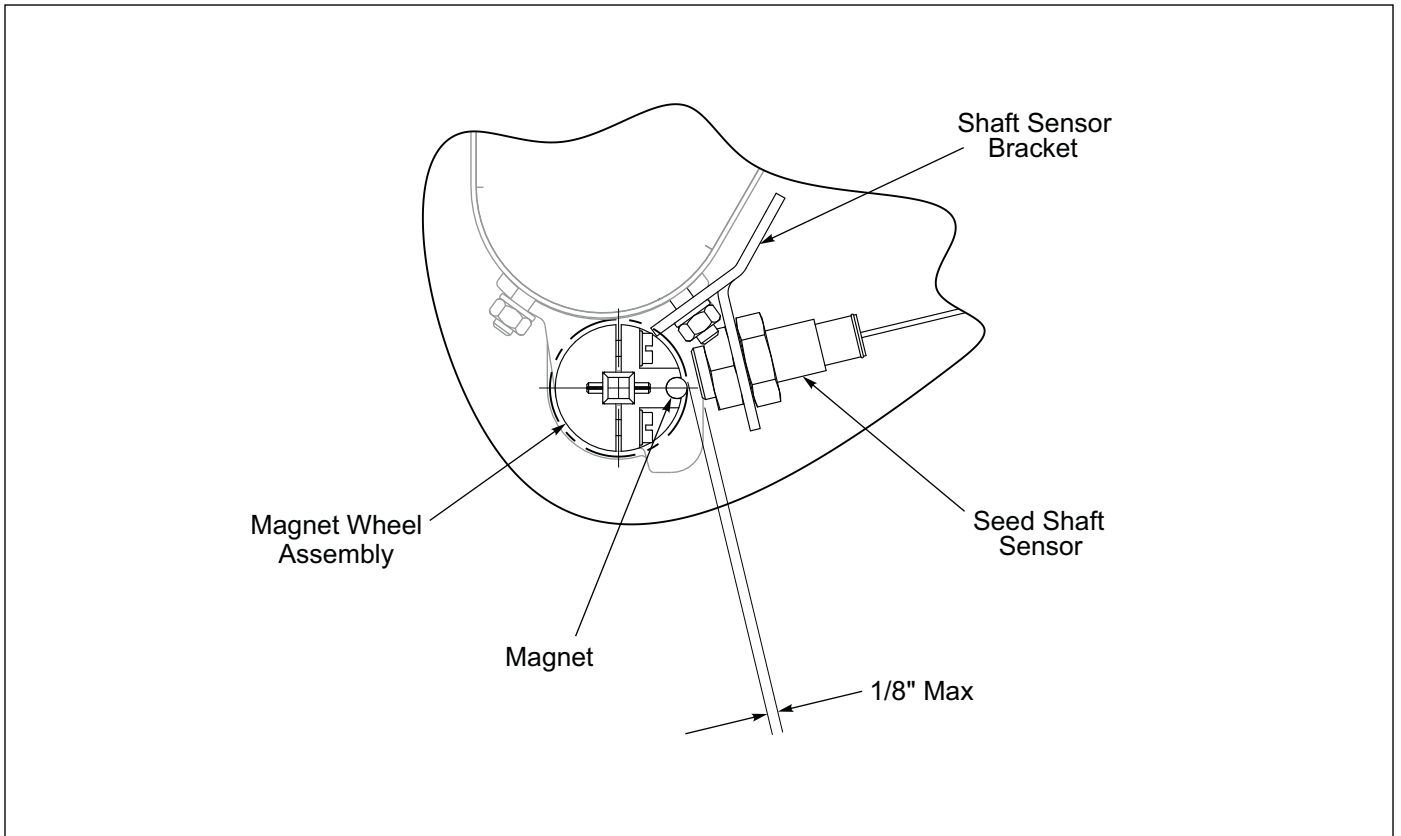

Figure 2-27: Seed Shaft Sensor Mounting Dimension - Seed Meter
6. Slide/Position Seed Shaft Sensor so it is 1/8" from the magnet. **See Figure 2-27.** Tighten both retaining Locknuts.